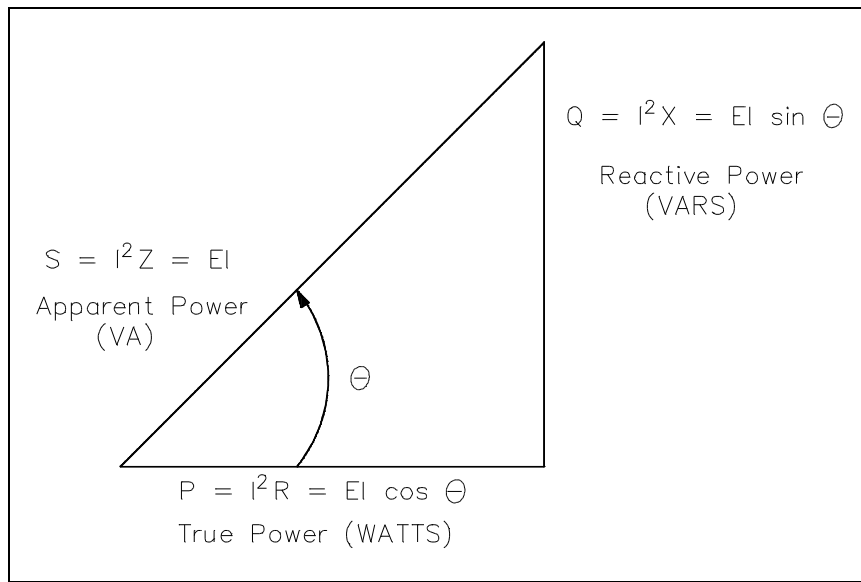

Figure 1 Power Triangle
In AC circuits, current and voltage are normally out of phase and, as a result, not all the power produced by the generator can be used to accomplish work. By the same token, power cannot be calculated in AC circuits in the same manner as in DC circuits. The power triangle, shown in Figure 1, equates AC power to DC power by showing the relationship between generator output (apparent power - S) in volt-amperes (VA), usable power (true power - P) in watts, and wasted or stored power (reactive power - Q) in volt-amperes-reactive (VAR). The phase angle ( $\theta$ ) represents the inefficiency of the AC circuit and corresponds to the total reactive impedance (Z) to the current flow in the circuit.
*Power factor* (pf) is the ratio between true power and apparent power. True power is the power consumed by an AC circuit, and reactive power is the power that is stored in an AC circuit.  $\cos\theta$  is called the power factor (pf) of an AC circuit. It is the ratio of true power to apparent power, where  $\theta$  is the phase angle between the applied voltage and current sine waves and also between P and S on a power triangle (Figure1). Equation (9-4) is a mathematical representation of power factor.